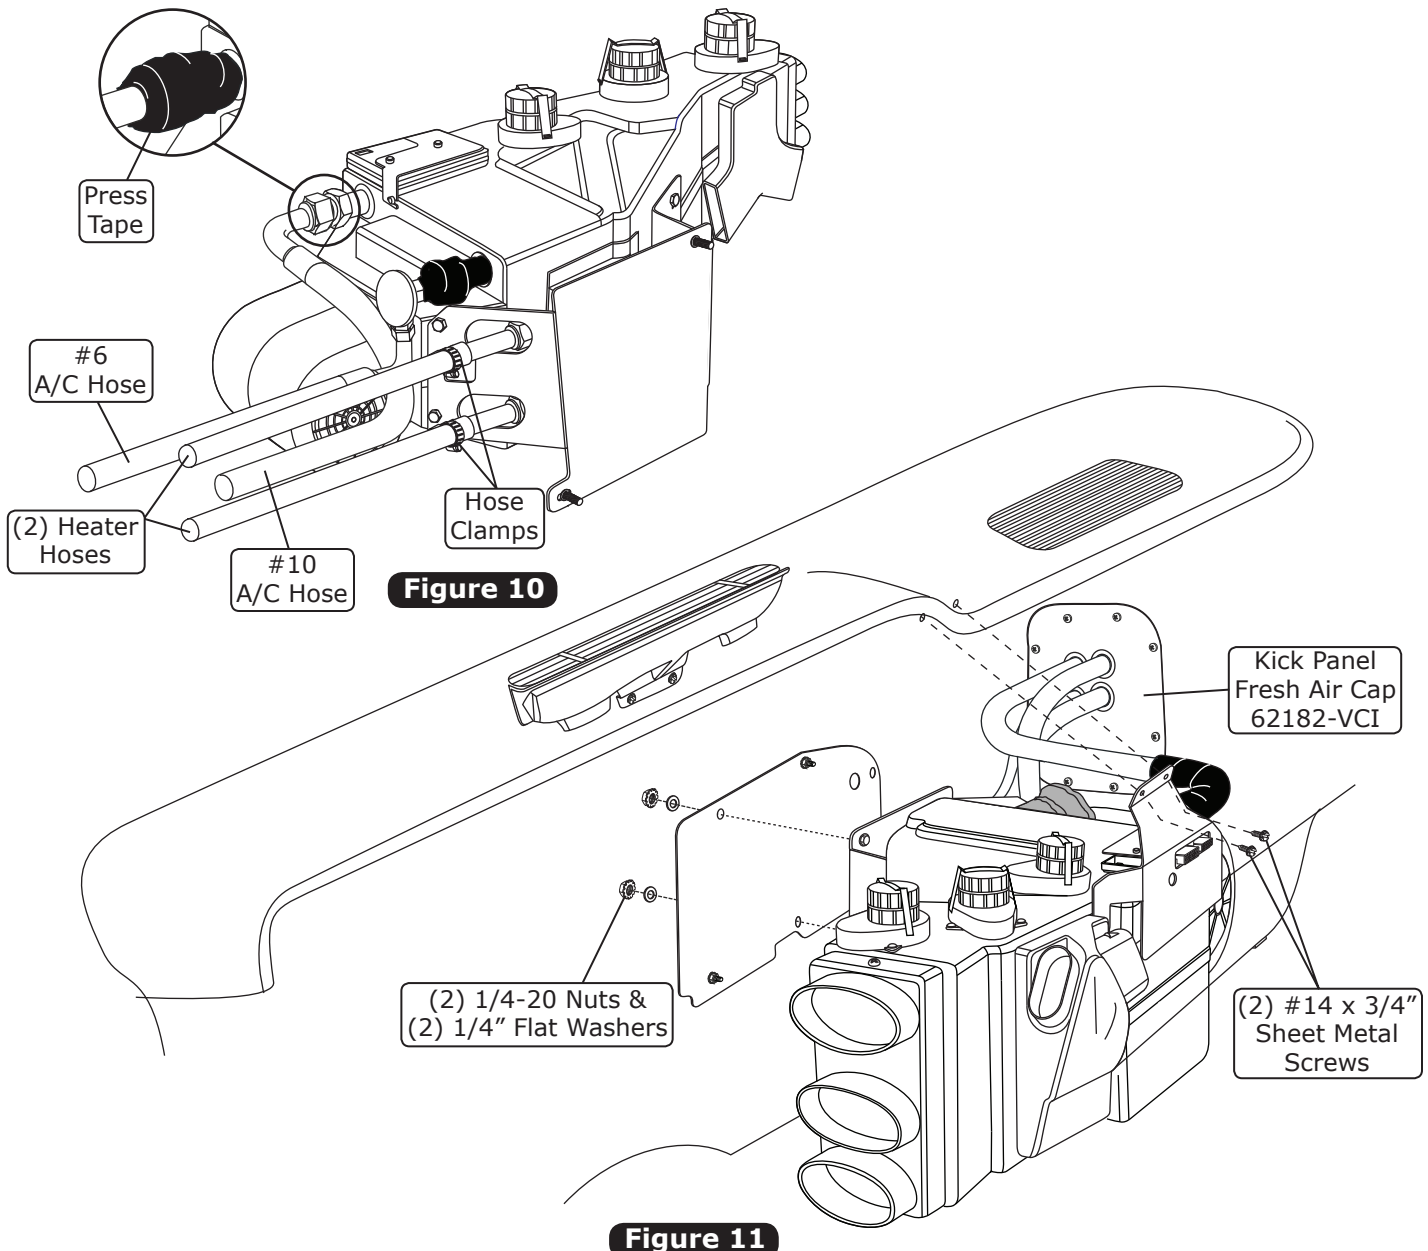

Figure 11
1. Lift the evaporator unit up under the dashboard. Secure loosely to the firewall using (2) 1/4-20 nuts and (2) flat washers (See Figure 11, below). **NOTE: To ensure proper drainage, it is very important that the evaporator is level, both left-right and fore-aft. Check for level on the flat portions of the case around the drain.**
2. Using (2) #14 x 3/4" sheet metal screws, secure the front evaporator mounting bracket to the cowl (See Figure 11, below).